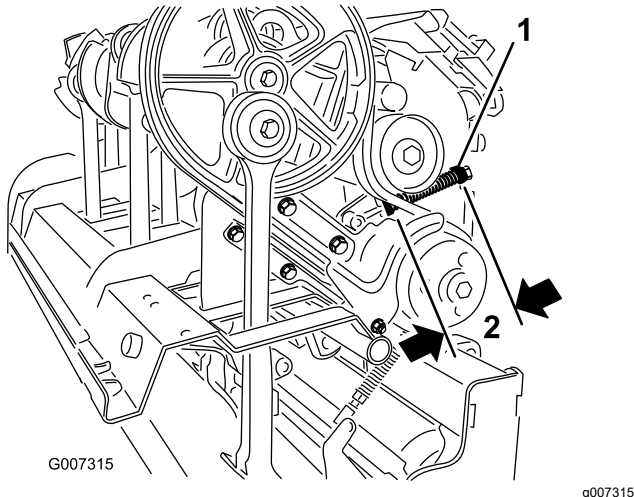

Figure 35
- C. Loosen the locknut securing the spring retainer (Figure 35).
- D. Adjust the spring retainer to attain required compressed spring length (Figure 35).